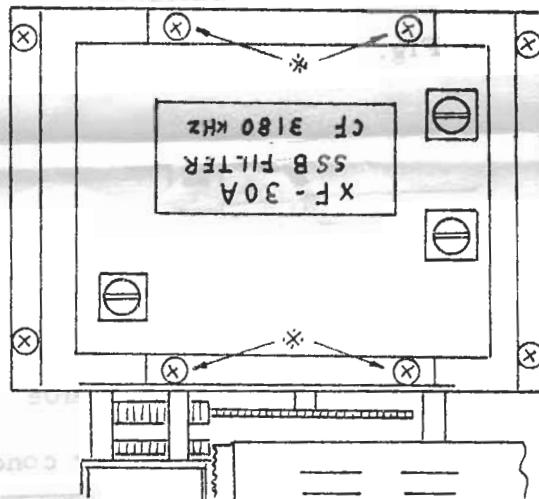
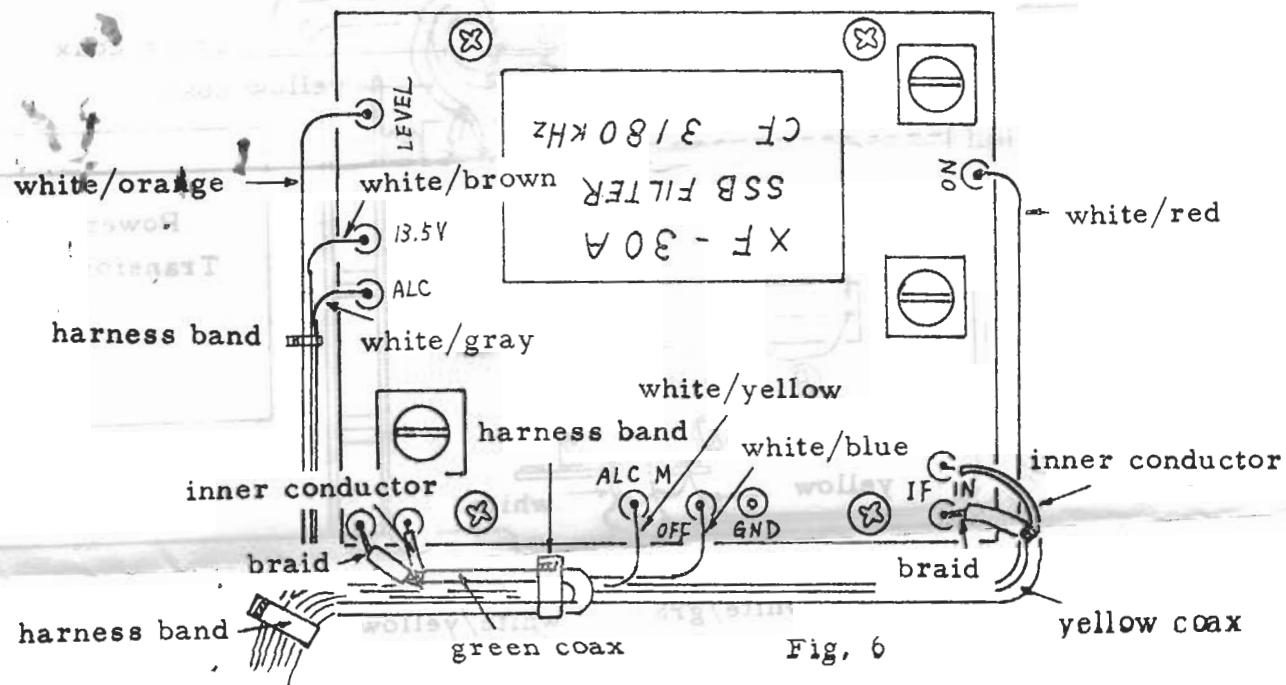

Fig. 5
Fig. 6
- (f) Install the RF processor unit as illustrated in Fig. 5. Use the tapping screws supplied. Solder the wires as illustrated in Fig. 6.